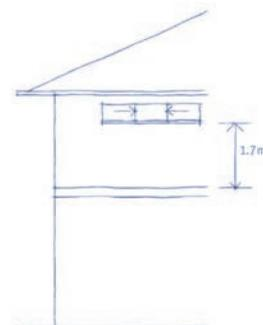

Figure 7C
- Minimum sill height of 1.7 metres above the upper floor level. Refer to Figure 7C;